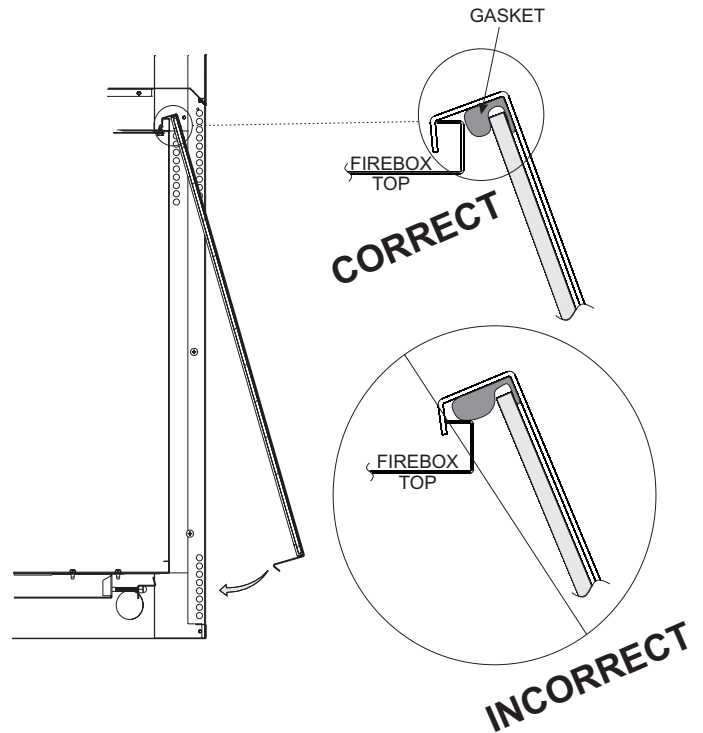

Figure 81
1. When installing the glass door, make sure that the door top flange is hooked over the firebox top flange as illustrated in the "Correct" view in Figure 81.
Important: Do not allow the gasket across the top of the door to roll up on top of the firebox flange as shown in "Incorrect" view in Figure 81.